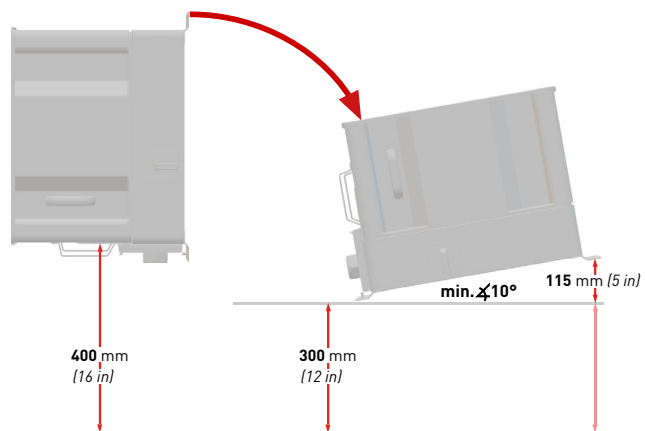

Fig. 5: Vertical and horizontal installation (10° outdoors)
- a) Maintain a distance of at least 300 mm from the floor in the connection area (see Figure 5).